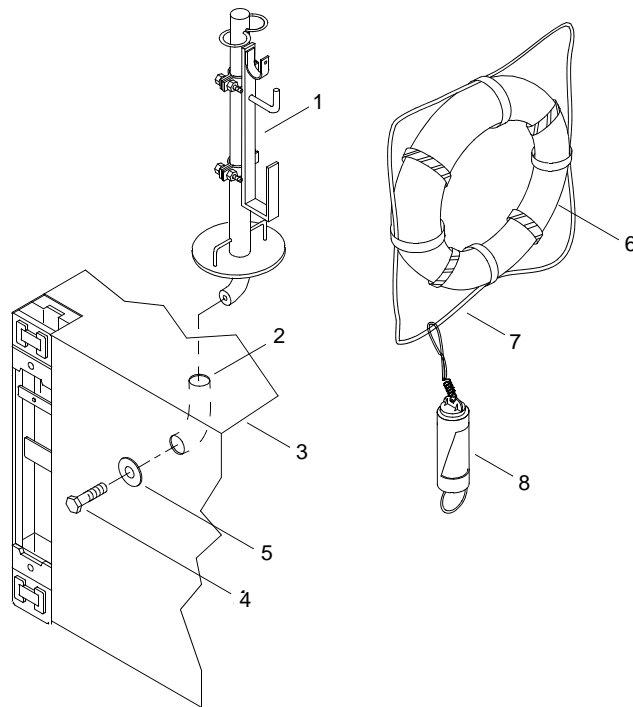

Figure 2. Life Ring Installation
3. Install life ring stanchion (figure 2, item 1) into turn tube (figure 2, item 2) on module (figure 2, item 3).
4. Insert bolt (figure 2, item 4) through keeper plate (figure 2, item 5) and module (figure 2, item 3).
5. Install bolt (figure 2, item 4) into threaded portion of life ring stanchion (figure 2, item 1). Tighten bolt (figure 2, item 4).
6. Position life ring (figure 2, item 6) and rope (figure 2, item 7) in life ring stanchion (figure 2, item 1) and secure rope (figure 2, item 7) to strobe light (figure 2, item 8).